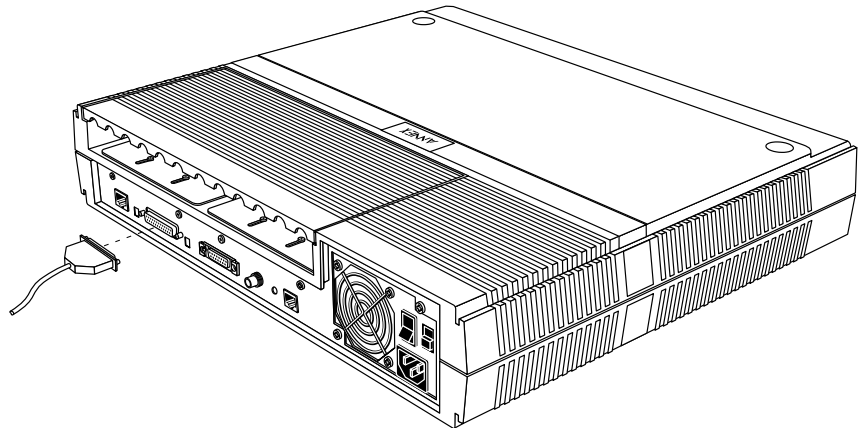

Figure 2-13. Connecting the Parallel Printer Cable to the Remote Annex 4000
- 1 Connect one end of the Dataproducts or Centronics parallel printer cable to the Remote Annex 4000's 25-pin printer port (see Figure 2-13).